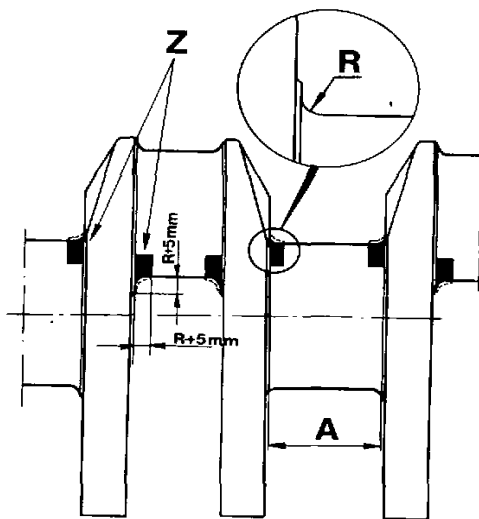

Fig. 85. Pilot bearing width dimension
- Length-wise cracks within the zone marked "Z", fig. 85:
2. When grinding, it is very important to ensure that the fillet radii retain their correct dimension, $R = 3.75-4.00$ mm (0.148-0.158") and their correct shape and finish. Measure the radius with a radius template. The shape must be as fig. 85. There must be no grinding hacks or sharp edges since these can give rise to crankshaft fracture.
3. Particular care is needed when grinding the centre bearing journal with respect to the pilot bearing width "A" in fig. 85.
Measurement "A", fig. 85, must be: